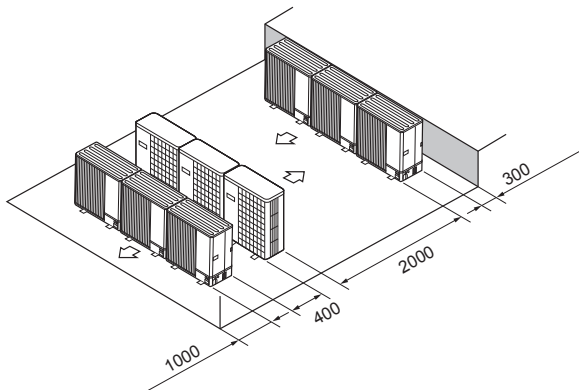

Fig. 1-17
- ⑥ Multiple parallel unit arrangement (Fig. 1-17)